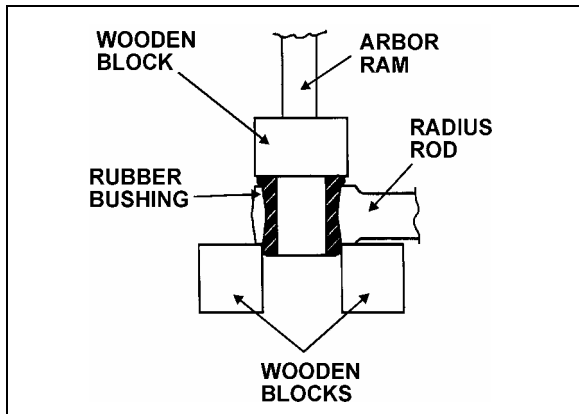

FIGURE 11: RADIUS ROD BUSHING INSTALLATION 16012
- Safely support the radius rod, and place new bushing on top of the radius rod end (Fig. 11).